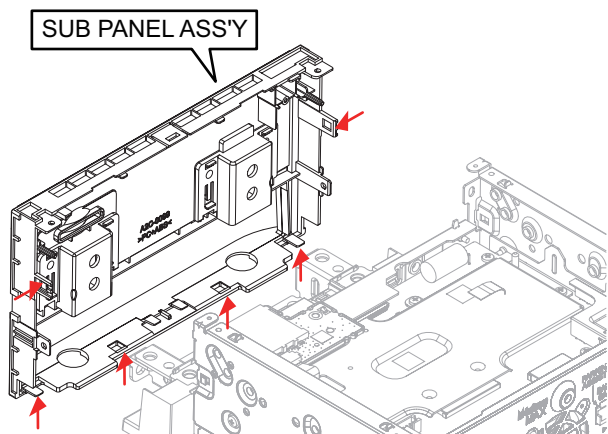

Fig.13
- (6) Remove the 6 hooks, and remove the SUB PANEL ASS'Y. (See Fig.13)